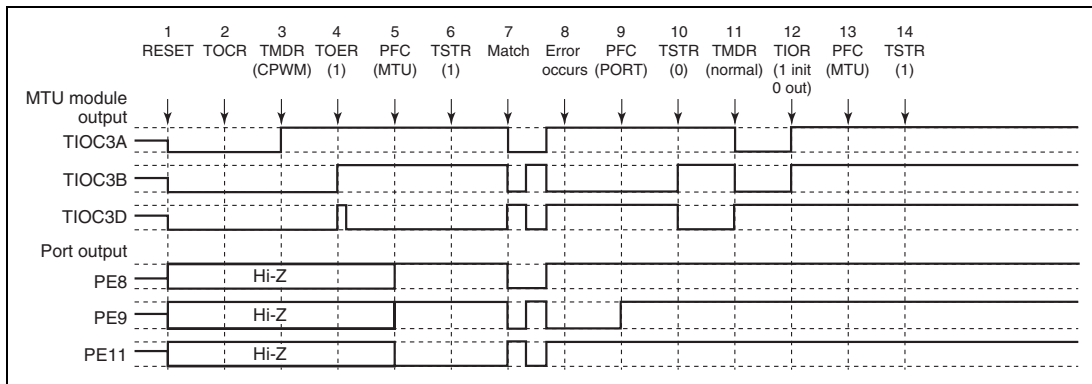

Figure 8.109 Error Occurrence in Reset-Synchronous PWM Mode, Recovery in Normal Mode
(26) Operation when Error Occurs during Reset-Synchronous PWM Mode Operation, and Operation is Restarted in Normal Mode: Figure 8.109 shows an explanatory diagram of the case where an error occurs in reset-synchronous PWM mode and operation is restarted in normal mode after re-setting.
1 to 10 are the same as in figure 8.109.